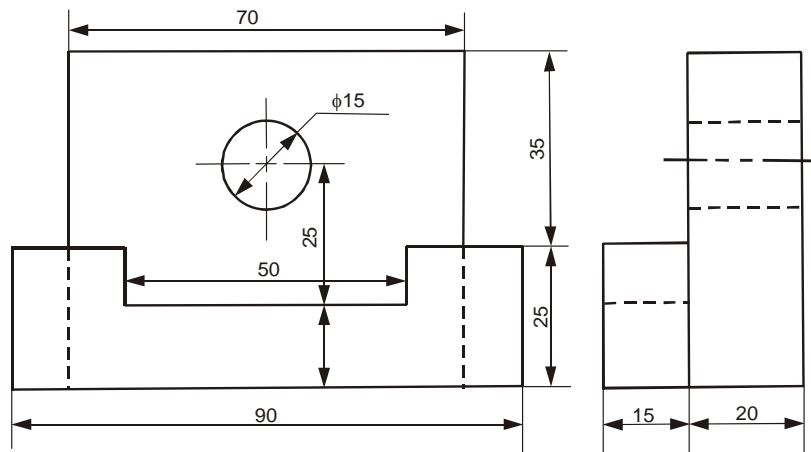

Figure 5.15
- (a) Figure 5.15 shows the two orthographic views of a machine bracket. Draw these views and also an oblique view on 45° receding axis.